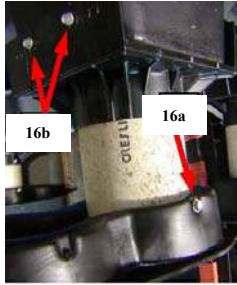

Figure 3.3
- b. Fasten the pipe piece to the foot bottom using the supplied stainless steel screws (#14 x 1.5", self-tapping stainless steel hex head screw). Two screws/ foot bottom shown in *Figure 3.3*.